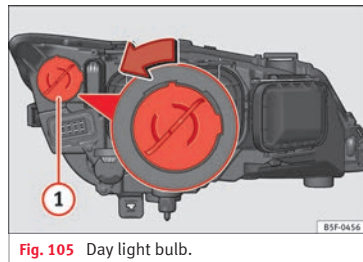

Fig. 105 Day light bulb.
- Turn the bulb holder »» Fig. 105 ① to the left and pull.